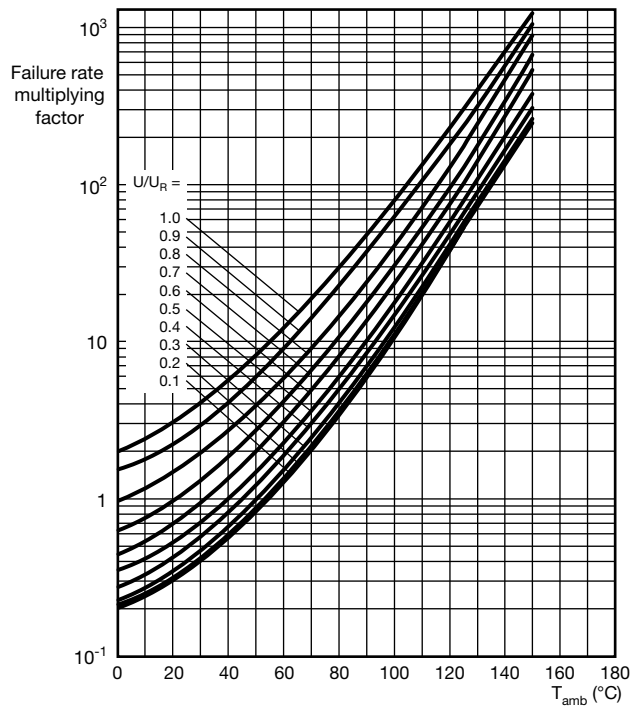

Fig. 17 - Conversion factors for failure rate (λ) as a function of ambient temperature (T_{amb}) and voltage ratio (U/U_R) for non-solid aluminum capacitors
- Wear-out period, showing an increasing failure rate due to gradual deterioration. For aluminum capacitors with non-solid electrolyte, the onset of this period can be calculated with the nomogram (see Fig. 17).
In order to calculate λ for other operating conditions, the value for the failure rate multiplying factor, $\text{mult}(T, U/U_R)$ in the formula above, must be taken from Fig. 17.